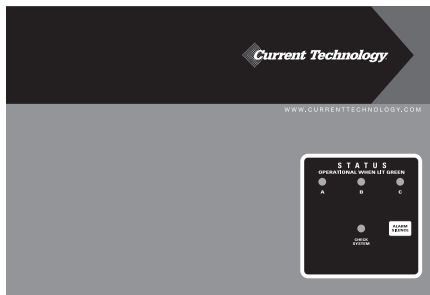

Figure 10
► If your SL3 has M1 Standard Monitoring (see Figure 10):
The M1 Standard Monitoring is equipped with a dual set of Form “C” contacts (see Figure 10). The relay containing the contacts is in the “alarm condition” or normally closed when the power is off to the unit, when the unit is encountering loss of power to one or more phases, or the SL3 is encountering more than 40% loss of capacity due to internal fuse operation. Test the operation of the Form “C” contacts by de-energizing the SL3 and checking the state of the contacts with a continuity tester or observing the effect of the contacts on the user provided remote alarm circuits.